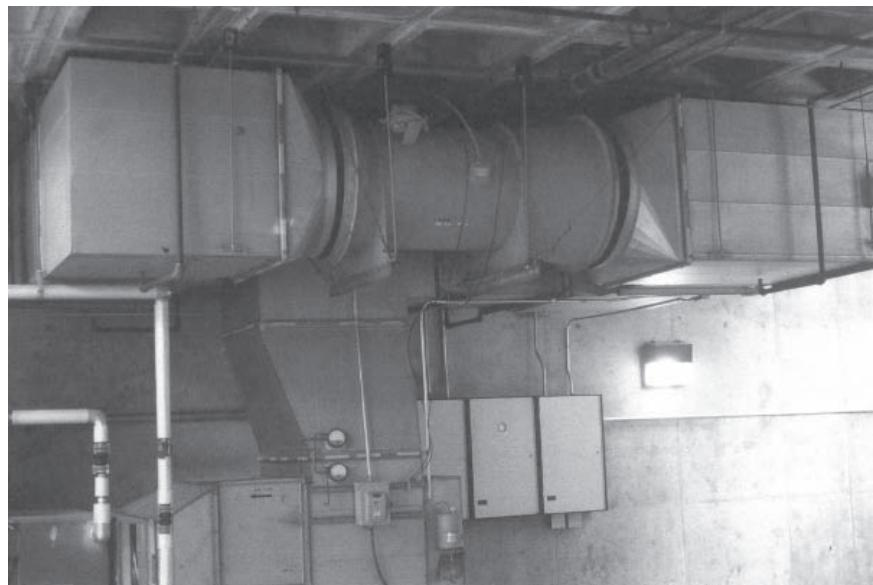

Figure 7-3. Vane Axial Fan
The vane axial (VA) fan is the most efficient axial type fan (Figure 7-3). A propeller fan produces a spiral air stream. The VA fan uses straightening vanes on the leaving air side of the fan to straighten the spiral to a smooth air stream. This reduces turbulence and improves efficiency and pressure capability. It also reduces noise levels. The static efficiencies of the VA fan are comparable to the backward inclined (BI) and airfoil (AF) centrifugal fans. Static efficiencies of the VA fan are typically 70 to 72 percent. The operating or application range of the VA fan is about 60 to 90 percent of full flow cfm.